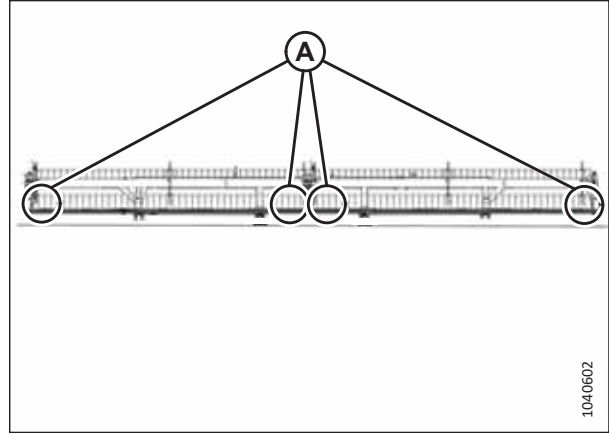

Figure 4.275: Double-Reel Header Measurement Locations
- Figure 4.275, page 410 – double-reel headers